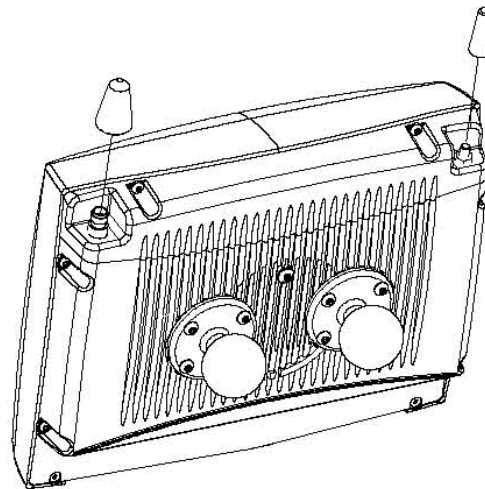

Figure 6 Aerial Outlets
- 1 Mount the aerial on the top of the computer; see Figure 6